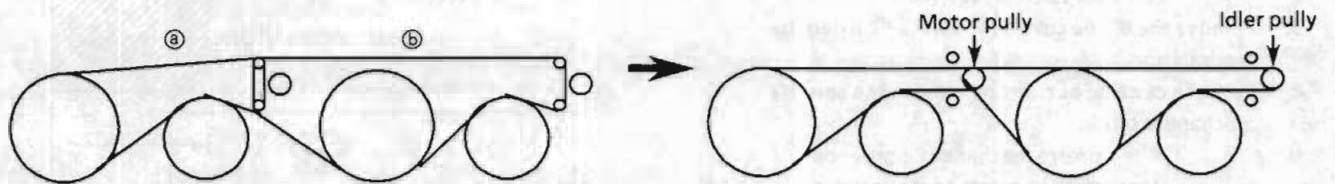

Figure 6 How to put the belts
Install the flywheel and the belts to the mechanism as shown in figure 6. (When putting the belts, put the belt ② first.)